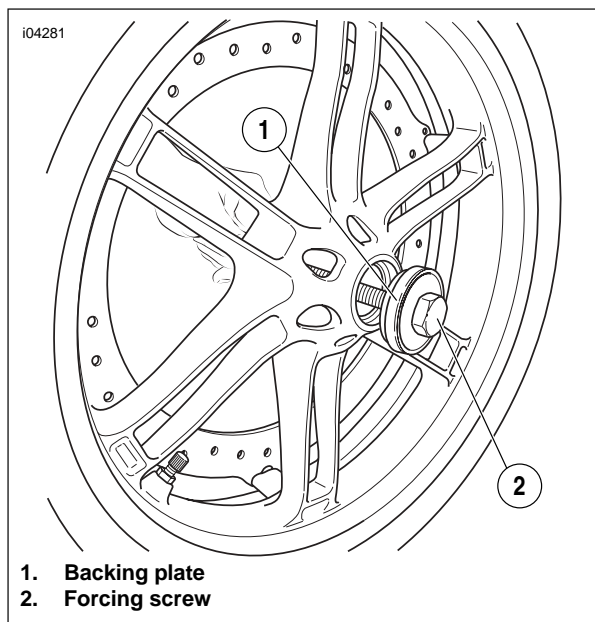

Figure 2-12. Install the Backing Plate (B-43993-12) and Forcing Screw
1. See Figure 2-12. Install the Backing Plate (Part No. B-43993-11) onto the long forcing screw from the Wheel Bearing Installer/Remover (Part No. HD-44060), with the smaller diameter toward the wheel hub. Insert the forcing screw and backing plate into the wheel hub.